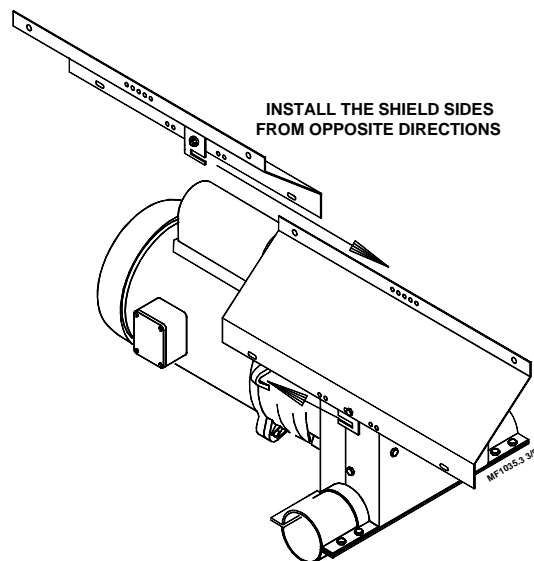

Figure 3.
3. Assemble the Shield Sides on the Power Unit. The Mounting Tabs slip into the ears on the gearhead, as shown in Figure 3.